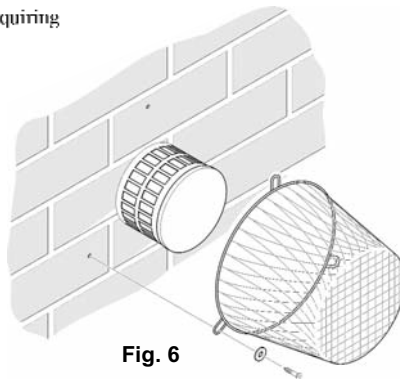

Fig. 6
c. The guard must be screwed to the wall over the flue terminal and be at least 50mm (2 in) clear of any part of the terminal. A suitable guard is available direct from Baxi Heating, Part No. 080266 (Fig. 6).